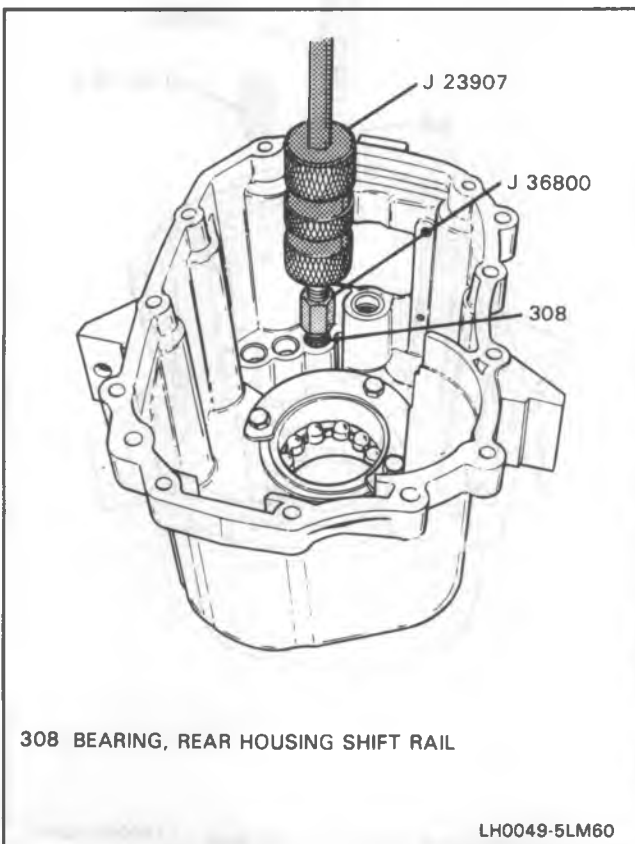

Figure 48 Removing Shift Rail Bearing
1. Rear housing shift rail bearings (308) (three), using J 36800 and J 23907 (Figure 48).